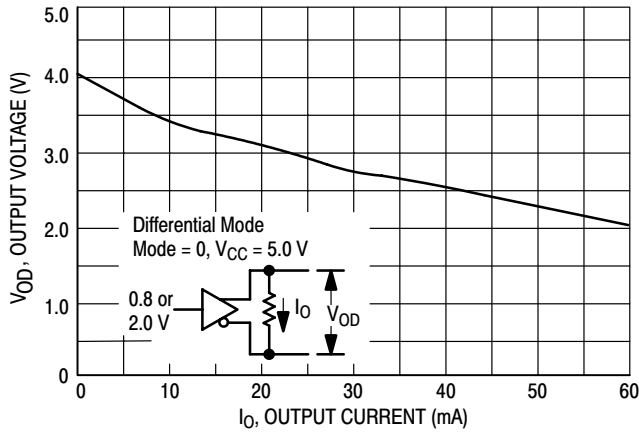

Figure 6. Differential Output Voltage versus Load Current
In this mode (Pins 4 and 8 at ground), only a +5.0 V supply $\pm 5\%$ is required at V_{CC} . Pins 2 and 7 are the driver inputs, while Pins 10, 11, 14 and 15 are the outputs (see Block Diagram on page 1). The two outputs of a driver are always complementary and the differential voltage available at each pair of outputs is shown in Figure 6 for $V_{CC} = 5.0$ V. The differential output voltage will vary directly with V_{CC} . A “high” output can only source current, while a “low” output can only sink current (except for short circuit current – see Figure 8).
V_{OD} = is taken from Figure 6 for the known value of I_O
1) The device may be operated in the differential mode (Pin 4 = 0) with V_{EE} connected to any voltage between ground and -5.25 V. Outputs in the low state will be referenced to V_{EE} , resulting in a differential output voltage greater than that shown in Figure 6. The Enable pins will operate the same as previously described.